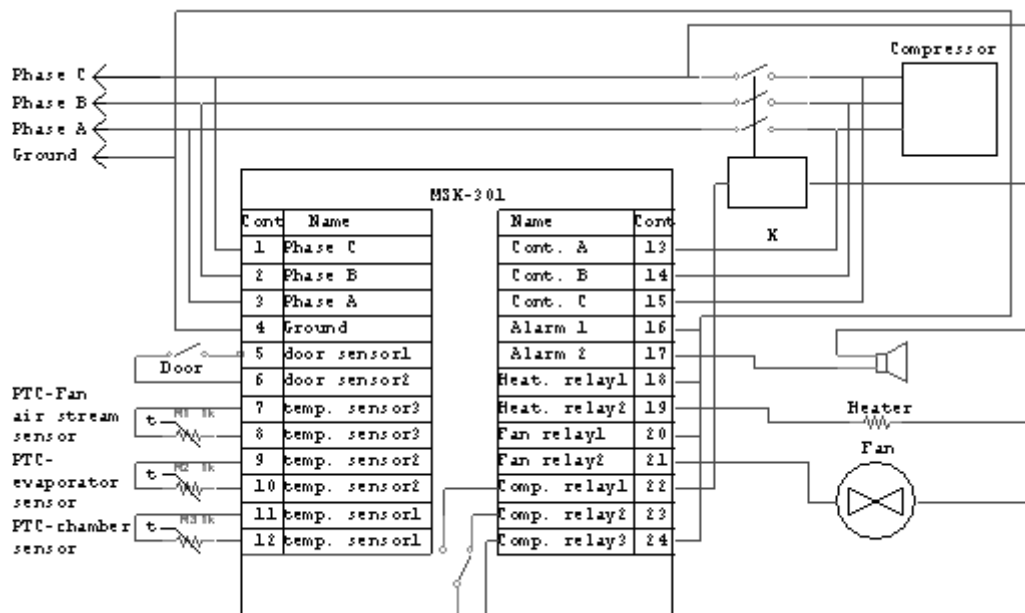

Fig. 2. The MCK-301 connections to the three-phase mains supply.
3.1. Connect compressor starter, fan, alarm bell, temperature sensors to the MCK-301 according to fig.2.